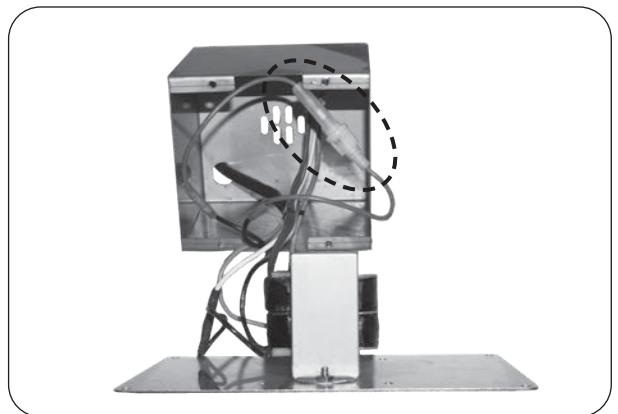

Fig. 42-4 Carefully open box and replace fuse (red wire)
5. Carefully open the box by pulling its cover away. You may need to feed the wire harness into the box to provide enough slack to open on the other end. Then “push in and twist” the fuse holder (red wire), exposing the fuse. See Fig. 42-4.